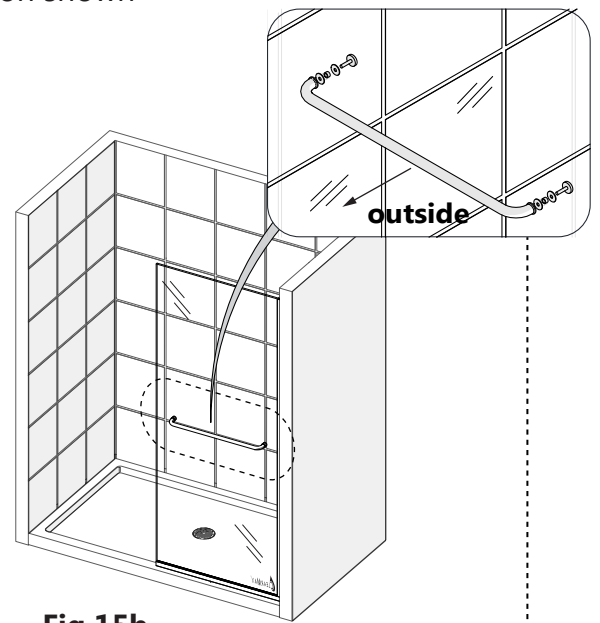

Fig 15b
- Install the **Towel Bar Assembly (#05)**, ensuring all vinyl gaskets are present to prevent glass-to-metal contact, as shown in **Fig. 15b**.